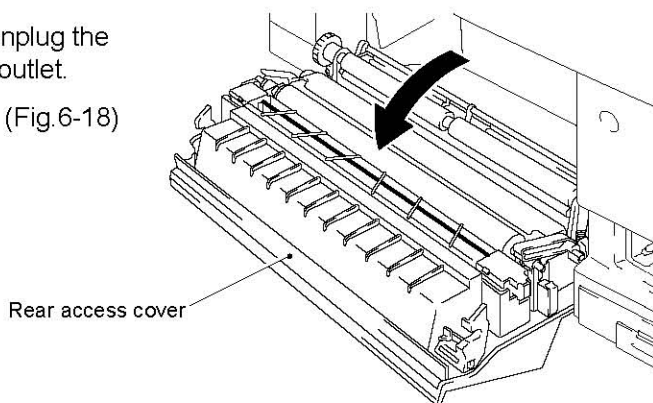

Fig. 6-19
- (1) Lift the transfer roller lock levers to release both ends of the roller. (Fig.6-19)